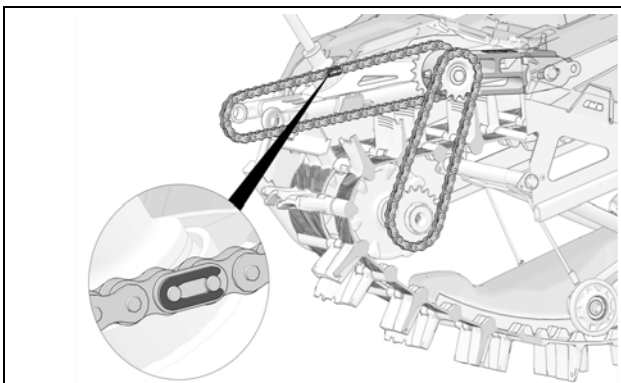

Figure 26
- Install the provided chain on the motor sprocket and on the free Tensioner sprocket. Join the ends of the chain using the master link provided. See Figure 26.